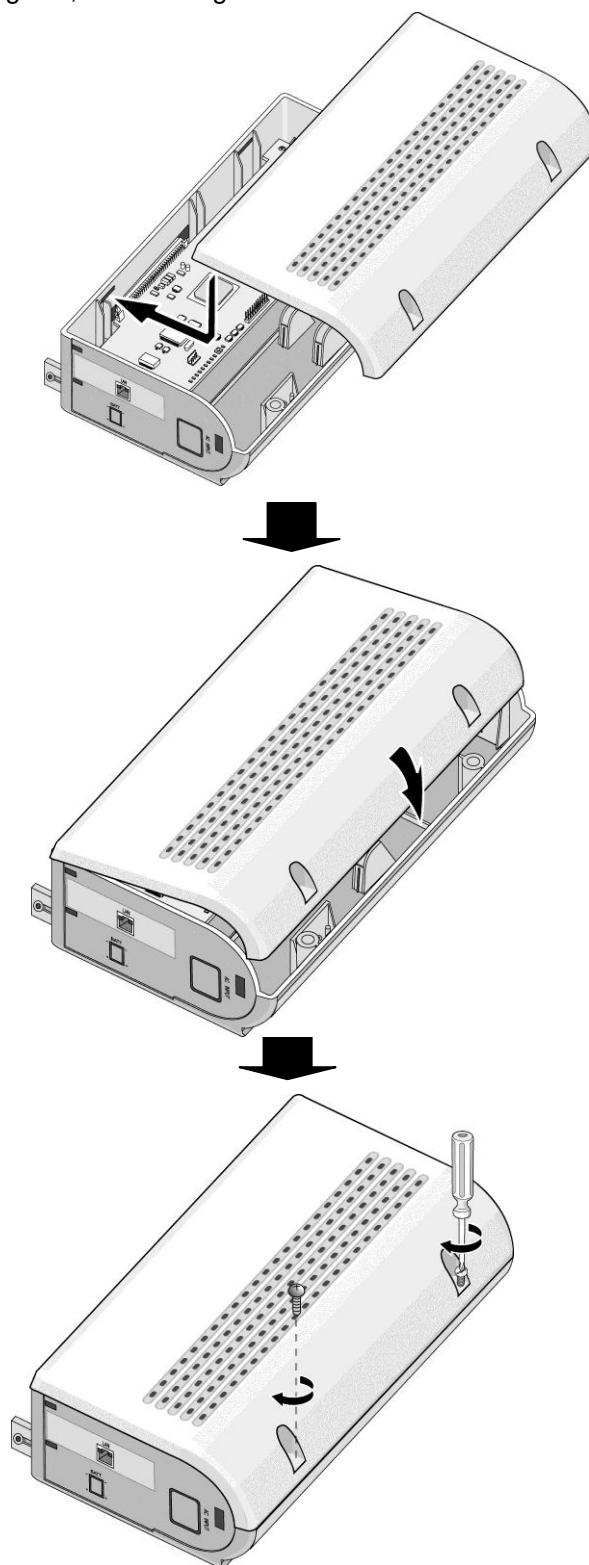

Figure 4.2.2 Closing the front cover
1. Insert the front cover into the slot on a module as show in Figure 4.2.2.